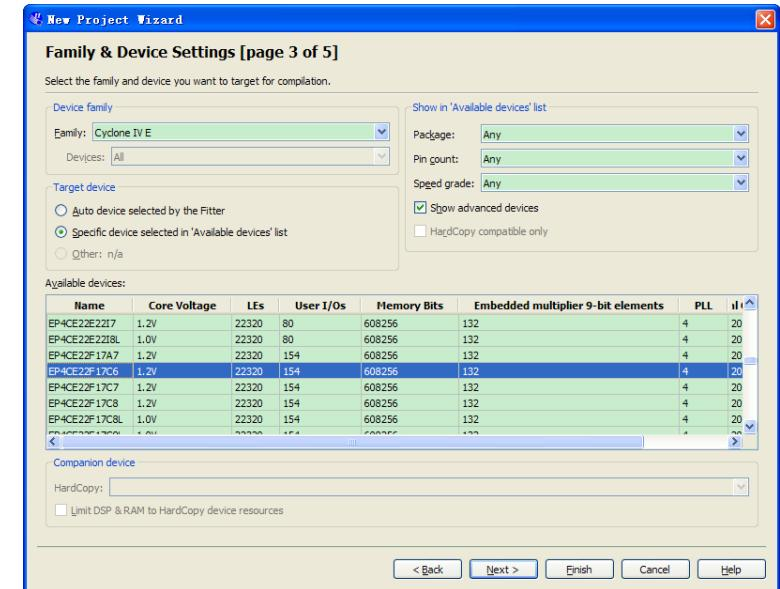

Figure 6-10 Specify the Device Example
- In the next dialog box, you will assign a specific FPGA device to the design. Select the **EP4CE22F17C6** device, as it is the FPGA on the DEO-Nano, as shown in **Figure 6-10**.